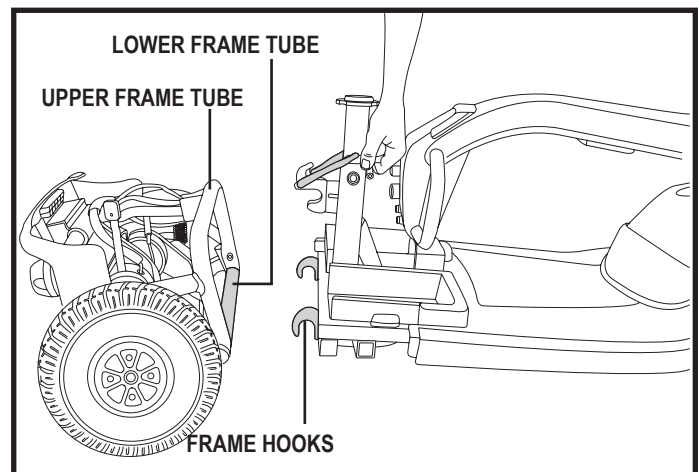

Figure 26. Frame Separation
NOTE: Stabilise the rear section with your free hand by holding onto the upper frame tube. **See figure 26.**
3. Slowly separate the two sections. **See figure 26.**
1. Position the front and rear sections of your scooter as shown in **figure 26.**
2. Use the frame release lever to lift the front section as you align the frame hooks of the front section with the lower frame tube of the rear section. **See figure 26.**